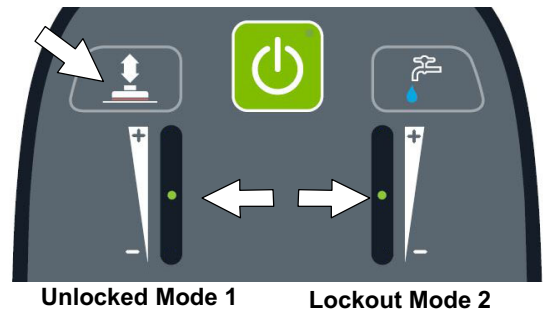

FIG. 153
3. Press the brush pressure button to toggle between the two modes (Figure 153). The LED of the selected mode will blink until saved.